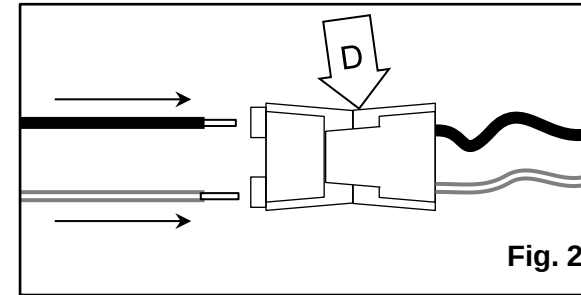

Fig. 2
3. Open the **access plate (B)** and thread the **supply wires** through the **knockout (C)**. Insert the **supply wires** into the **quick connector (D)** aligning the **black supply wire** with the **black fixture wire** and the **white supply wire** to the **white fixture wire**. [Fig. 2]